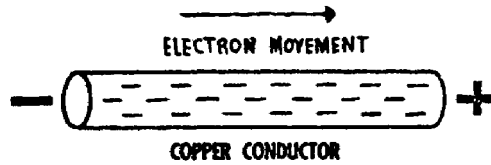

Figure 1. Copper conductor.
b. The movement of electrons through a conductor, such as copper wire, is an example of electron current flow (fig 1). Current flow is measured in amperes. When 6.28 billion billion electrons pass a certain point in a conductor in 1 second, the current flow is one ampere. Electrons do not move through a conductor of their own free will. There must be a force exerted to cause electron movement.